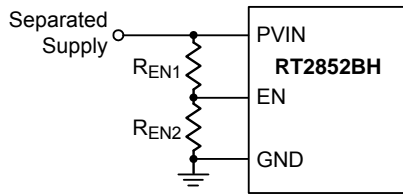
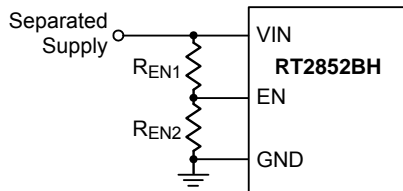
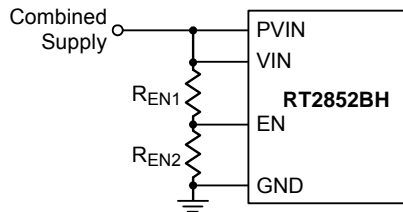

Figure 4. Resistor Divider for PVIN UVLO Setting
Figure 5. Resistor Divider for VIN UVLO Setting,
Figure 6. Resistor Divider for PVIN and VIN UVLO Setting
The EN pin can also be applied to adjust its Under-Voltage Lockout (UVLO) threshold with two external resistors divider from the both input VIN and PVIN pins used together or separately, and the application structures can refer to Figure 4, Figure 5, and Figure 6.
Under above application structures, the adjustable UVLO function of EN pin allows to achieve a secondary UVLO on PVIN pin, a higher UVLO on VIN pin or even a common UVLO on both VIN and PVIN pins. For example, if the EN pin is configured as Figure 5 and the output voltage is set to a higher value 10V. The device may shut down after soft-start sequence is over, and the reason for the result is that the  $V_{OUT}$  is still lower than its set target during the  $V_{IN}$  rising period even though  $V_{IN}$  has already risen to its internal UVLO threshold 4V. To prevent this situation, an adjustable UVLO threshold from EN pin is useful to avoid such high output transfer condition. The exact UVLO thresholds can be calculated by Equation (3). The setting  $V_{OUT}$  is 10V and  $V_{IN}$  is from 0V to 18V. When  $V_{IN}$  is higher than 12V, the device is triggered to enable the converter. Assume  $R_{EN1} = 56k\Omega$ . Then,